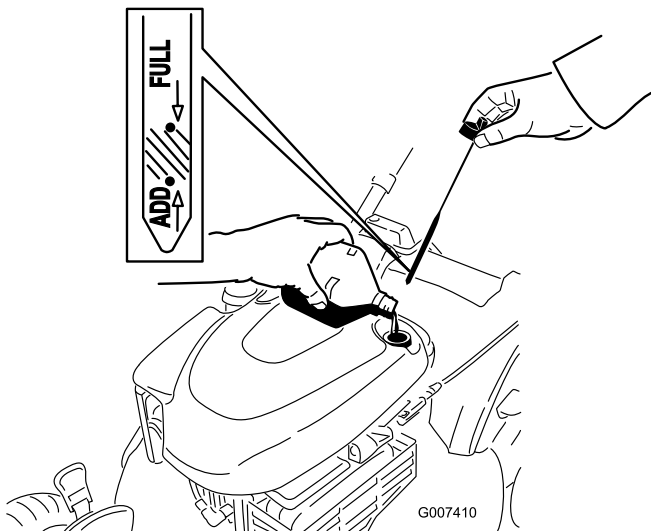

Figure 36
4. Slowly pour oil into the oil fill tube until the oil level reaches the **Full** line on the dipstick (Figure 36). **Do not overfill.** (Max. fill: 20 oz., type: SAE 30 detergent oil with an API service classification of SF, SG, SH, SJ, SL, or higher.)